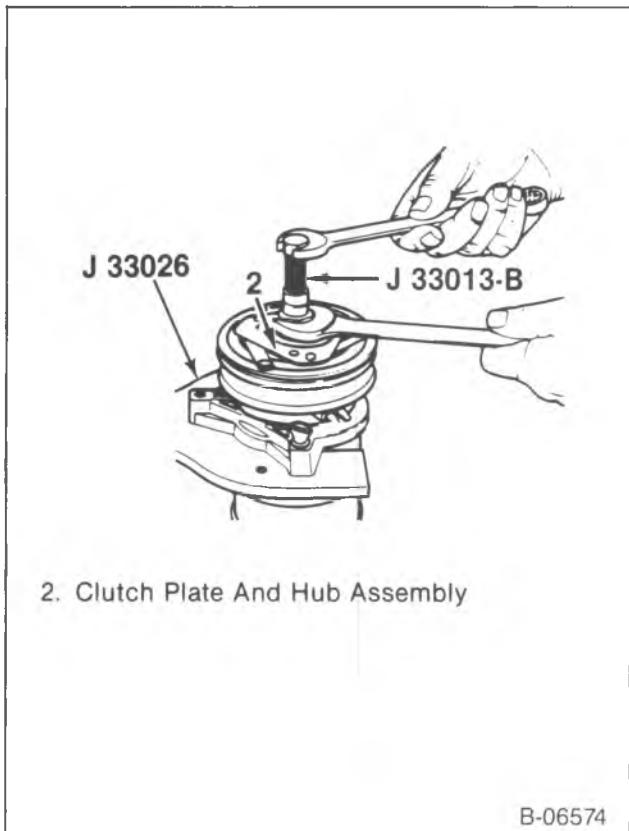

Figure 6—Removing the Clutch Plate and Hub Assembly
- Hold the body of J 33013-B with a wrench and tighten the center screw into the remover body (figure 6).
3. Shaft key (21).
- Retain shaft key (21) if usable.